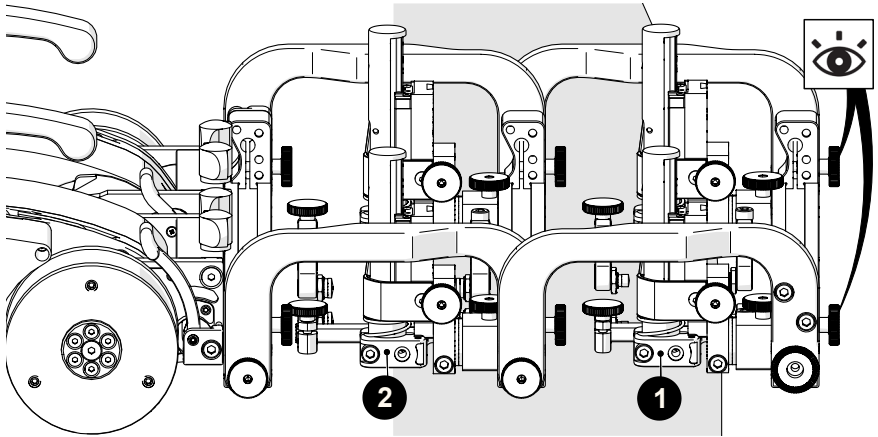

Fig. 254 - Position primary and secondary probe holders
2. Affix the probe holders (with attached wedges) to the probe holder frame. Place the secondary probe holder at the front of the **1** frame and place the primary probe holders at the rear of the **2** frame bar (Fig. 254).
3. Mount the probe holder frame to the crawler (see “Swivel Mount” on page 65 for additional details). When mounting the probe holder frame, ensure the attachment knobs (Fig. 254) are at the front (non crawler side).